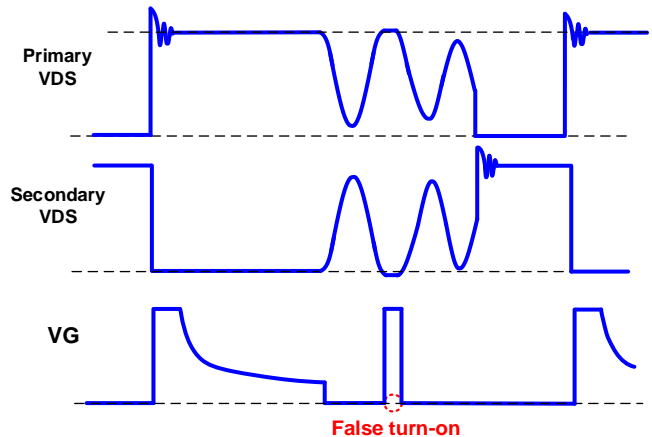

Figure 4: SR Waveform with Potentially False Turn-On during Demagnetizing Ringing
As the secondary current starts to change polarity and turn off (t_1 in Figure 4), the MOSFET package inductance (L_s) causes an instantaneous voltage on the sensed V_{ds} , as shown in Equation (1) and Equation (2):
An example of a ringing-induced issue is shown in Figure 4. As the secondary current falls to zero, the primary switch V_{ds} has resonance between the transformer main inductance and MOSFET C_{ds}^2 , which is reflected to the secondary side. Normally, the valley of this resonance should not
As the slew rate of this V_{ds} resonance is always much lower than the real turn-off slew rate (thanks to large main inductance), MPS MP6908 uses a unique slew rate programming pin to help decide when is the real turn off, and when is the normal V_{ds} resonance (see Figure 4).